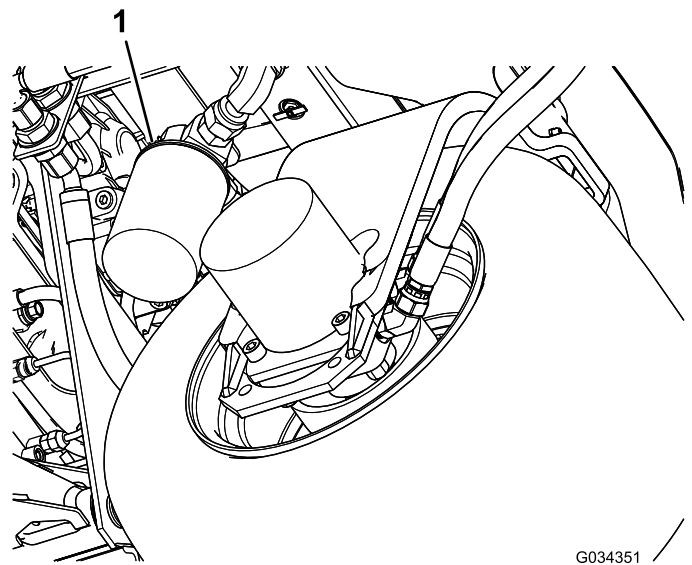

Figure 86
2. Clean around the filter mounting area. Place a drain pan under the filter (Figure 86) and remove the filter.